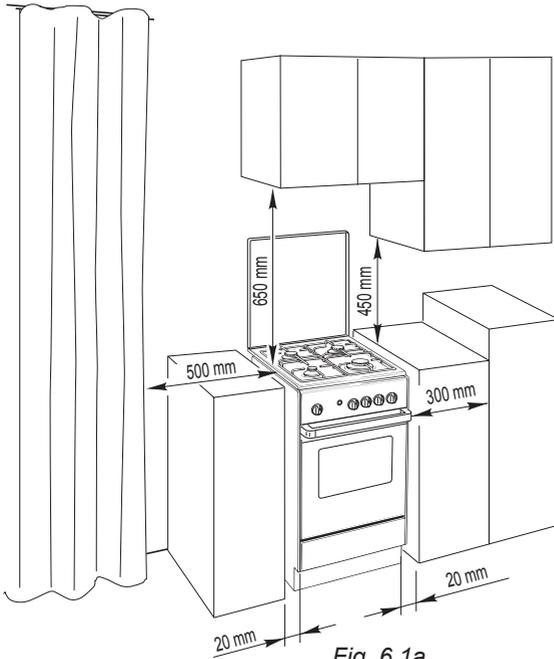

Fig. 6.1a
The installation conditions, concerning protection against overheating of the surfaces adjacent to the cooker, must conform to Figs. 6.1a or 6.1b and 6.2 (see next page).
■ **Gas connection made using rubber hose (fig. 6.1a)**